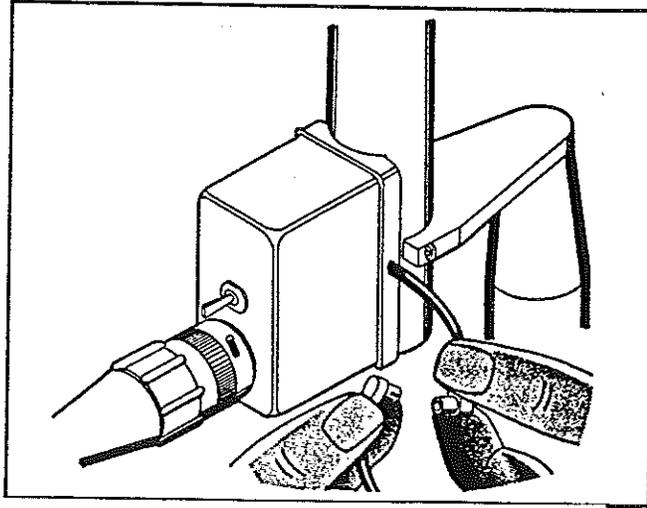

Fig. 6
- c) Connect the three leads as described in (a) above. See the Manual, Page 8 and Figure 6 for connection of the 12 volt supply.
- (d) Connect the coaxial lead from the connector on the under-side of the camera to the shorter 3 mm coaxial lead on the right of the Flash Unit (Fig. 6). (This connection powers the fixation lights).